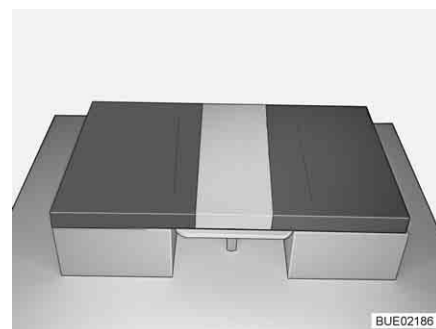

Fig. 104 After conversion
- Insert a back cushion between the seat cushions on the table (see Fig. 104).